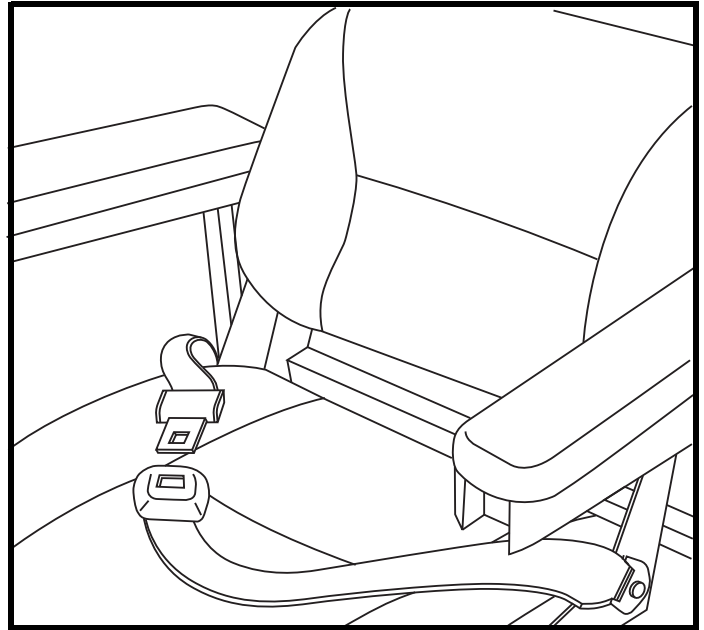

Figure 16. Positioning Belt Adjustment
Your power chair may be equipped with a positioning belt that can be adjusted for operator comfort. See **figure 16**. The positioning belt is designed to support the operator so that he/she does not slide down or forward in the seat. The positioning belt is not designed for use as a restraining device.
1. Once seated, insert the metal tab on one side of the belt into the plastic housing on the opposite side until you hear a click. See **figure 16**.